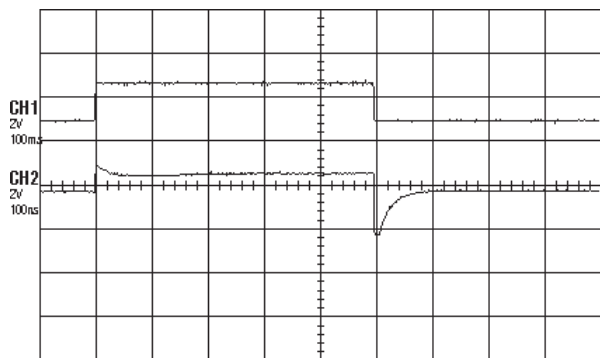

Figure 7.2.3: Flux Reference (CH1) and Tuning of Magn Current Reference (CH2) Displaying
- Enable the drive. On the channel CH1 scope the Flux ref signal will be displayed; on the channel CH2 the Magn current reference signal will be displayed (see figure: 7.2.3).